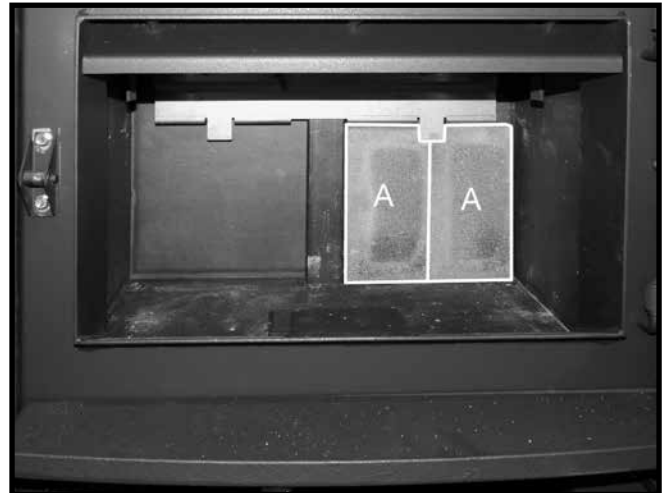

Figure 15. Installing the 2nd of the rear wall bricks
2. Slide a 2nd "A" firebrick underneath the tab on the brick rail Figure 15.